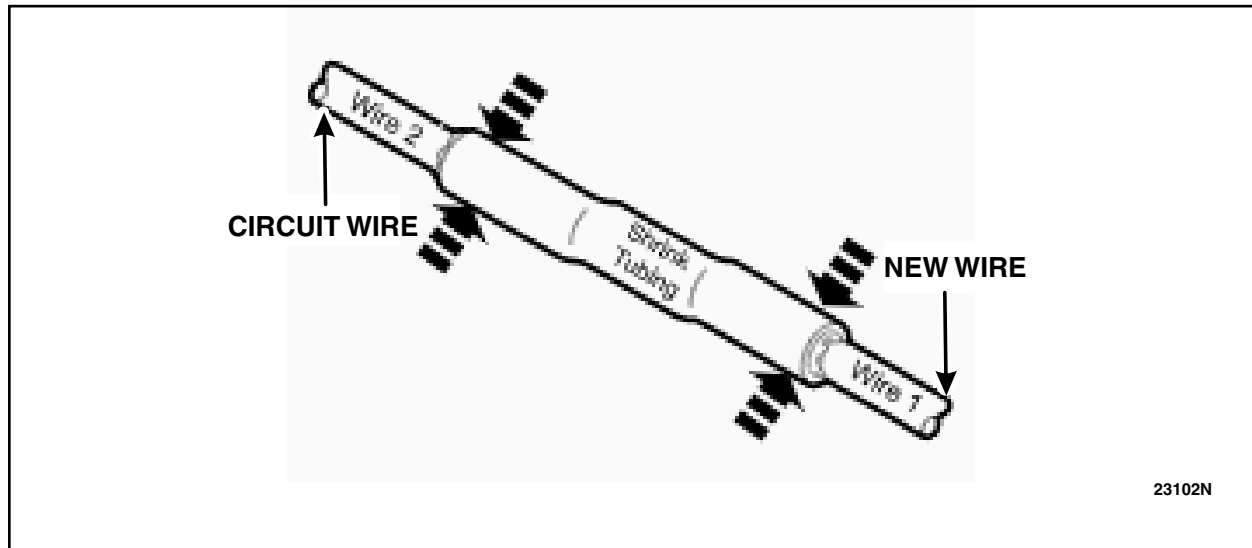

FIGURE 12
14. Add a 6 feet (182.8 cm) piece of 22-gauge wire to the end of the new circuit that was just installed. Solder and heat shrink the two wires together. Follow connector repair procedures. See Figure 12.